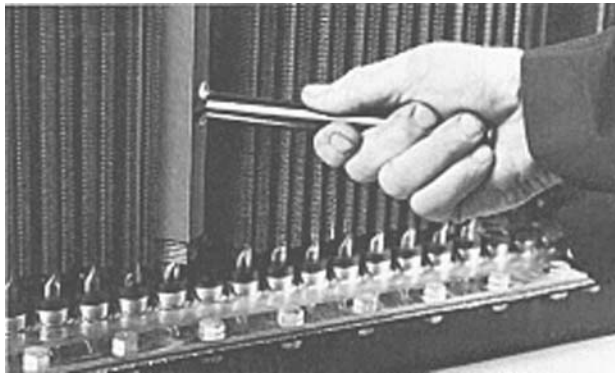

FIGURE 3-6. BREAKER TOOL (XA2307)
1. Start at the top row of tubes. Use the breaker tool (XA2307) to loosen the tube to be removed. When using the breaker tool, position it at the top or bottom of the tube. Never position it in the middle of the tube or damage may result. Use the breaker tool to lightly twist the tube back and forth within the seals to loosen the grip. Refer to Figure 3-6.
Each relay board of this type is equipped with four green lights (9, Figure 3-6) and one red “breaker open” light (7). Each relay board has a fifth green (8) light that has a different function on each board.